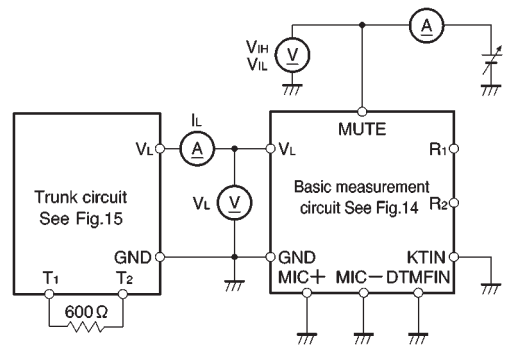

Fig.16 DC characteristics measurement circuit
| Line voltage (20) | | V _{LD20} | 2.8 | 3.3 | 3.8 | V | 20 | 1 | 2 | 2 | | Fig.16 | |
| Line voltage (120) | | V _{LD120} | 4.5 | 7.4 | 9.0 | V | 120 | 1 | 2 | 2 | | Fig.16 | |
| Input high level voltage | | V _{IH} | 1.3 | — | — | V | 40 | 2 | 2 | 2 | | Fig.16 | |
| Input low level voltage | | V _{IL} | — | — | 0.8 | V | 40 | 2 | 2 | 2 | | Fig.16 | |
| Input low level current | | I _{IL} | 20 | 39 | 60 | μA | 40 | 2 | 2 | 2 | | Fig.16 | |